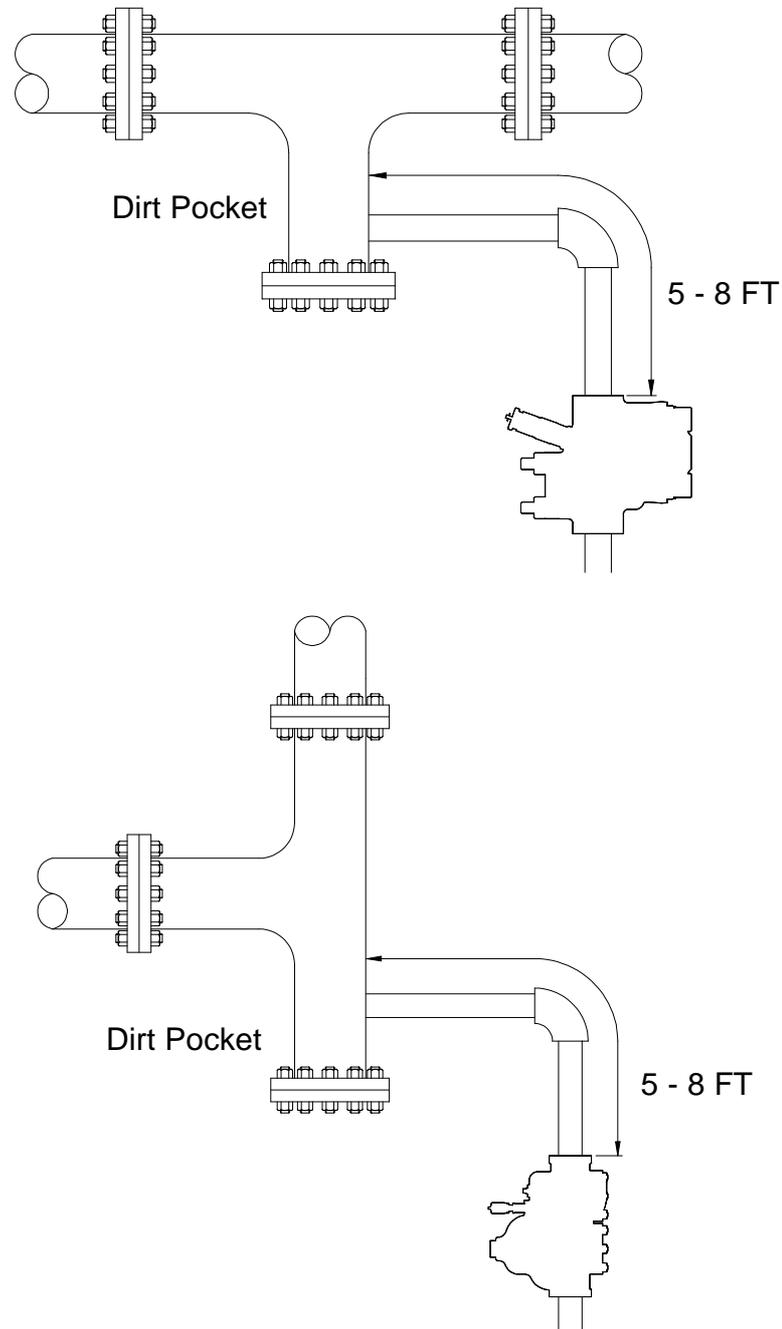

Fig.3
- b. Install the trap a minimum of 5-8 ft (1.5-2.5 m) from the equipment drain point (Fig. 3). This cooling leg will act as a water seal and improve the trap performance. The condensate pipe to the trap inlet should not be insulated within a minimum distance of 2ft (0.6m) before the trap inlet. Should these minimums not be possible the trap performance can be increased by using the temperature controller, see below.